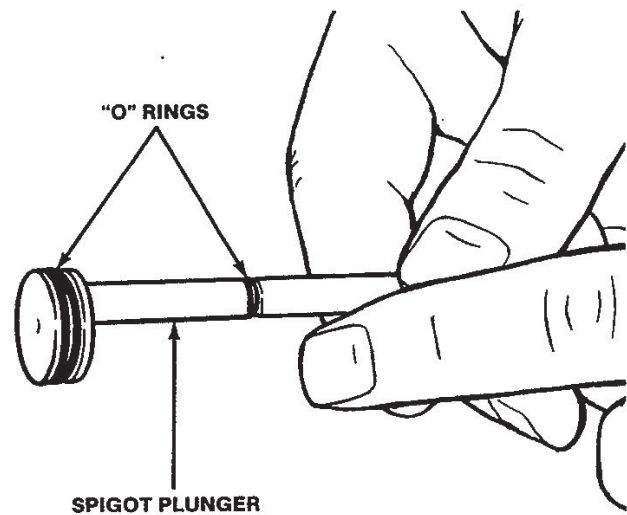

Figure 16. Spigot Plunger and "O" Rings
4. Pull the spigot plunger out of the spigot body. Remove the two "O" Rings from the spigot plunger (Fig. 16) in the same manner as removing the "O" Ring from the spigot assembly (step 1).